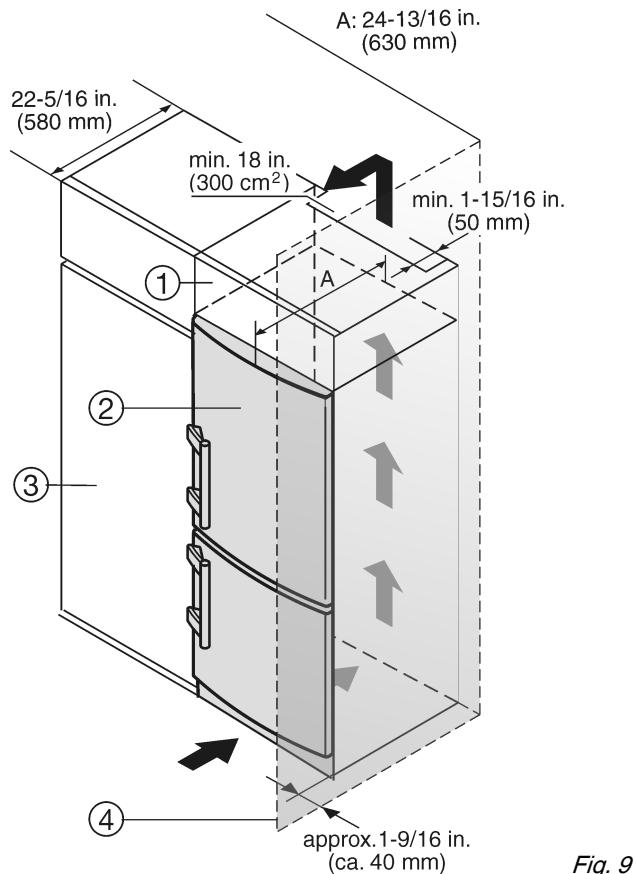

Fig. 9
- (1)** Top cupboard
(2) Appliance
- (3)** Kitchen cabinet
(4) Wall
The appliance can be built into the range of kitchen units. To bring the appliance *Fig. 9* (2) up to the height of the fitted kitchen units, a suitable top cupboard *Fig. 9* (1) can be added above the appliance.
When installing with kitchen cabinets (max. depth. 22-27/32 " (580 mm)) the appliance can be installed right next to the kitchen cabinet Fig. 9 (3). The appliance door projects 1-11/32 " (34 mm) at the side and in the center of the appliance 1-31/32 " (50 mm) from the front of the kitchen cabinet. This allows it to open and close properly.
If the appliance is installed with the hinges next to a wall Fig. 9 (4), the gap between the appliance and the wall must be at least 1-9/16 " (40 mm). This is how far the handle protrudes when the door is open.